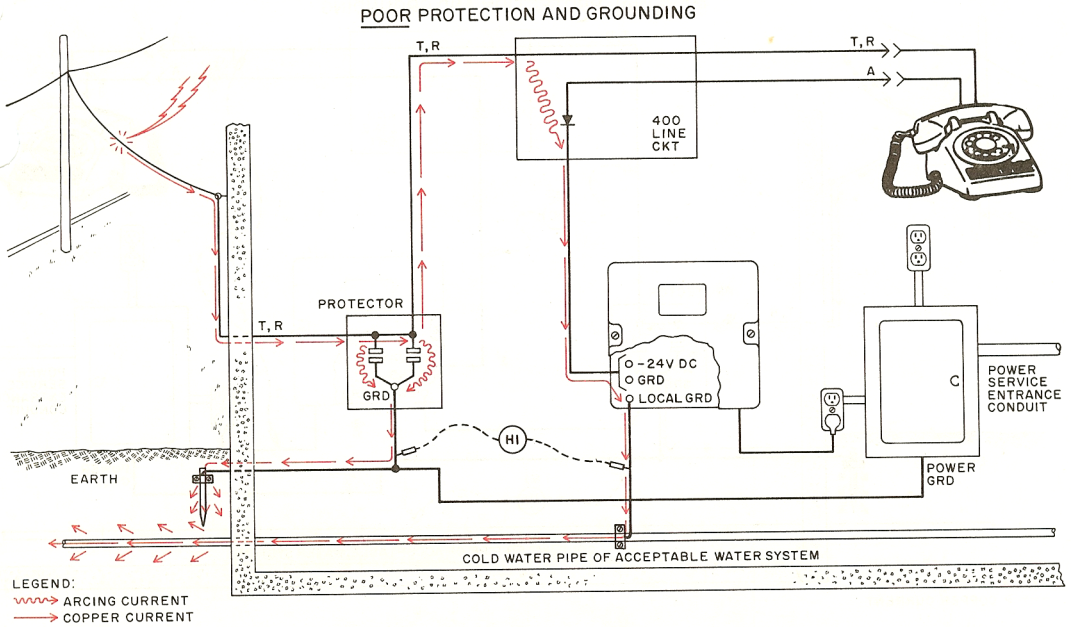

Fig. 15—Protector and AC Power Grounds Bonded to Ground Rod and KTS Power Supply Ground Bonded to Cold Water Pipe
#### **Other Combinations of KTS Grounds (Fig. 15 and 16)**
**6.07** Possible circuit arc paths can develop when more than a single type of ground is provided for the KTS. For example, Fig. 15 illustrates another grounding arrangement that exposes the KTS equipment to possible damage from line surges.